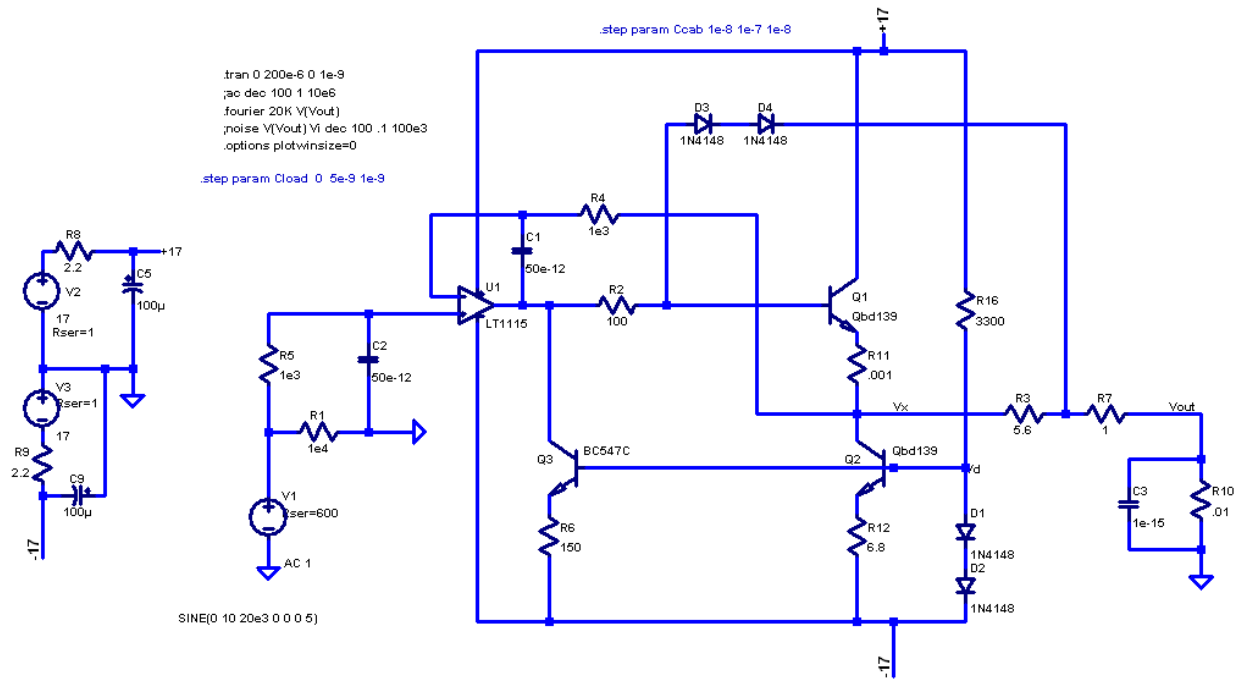
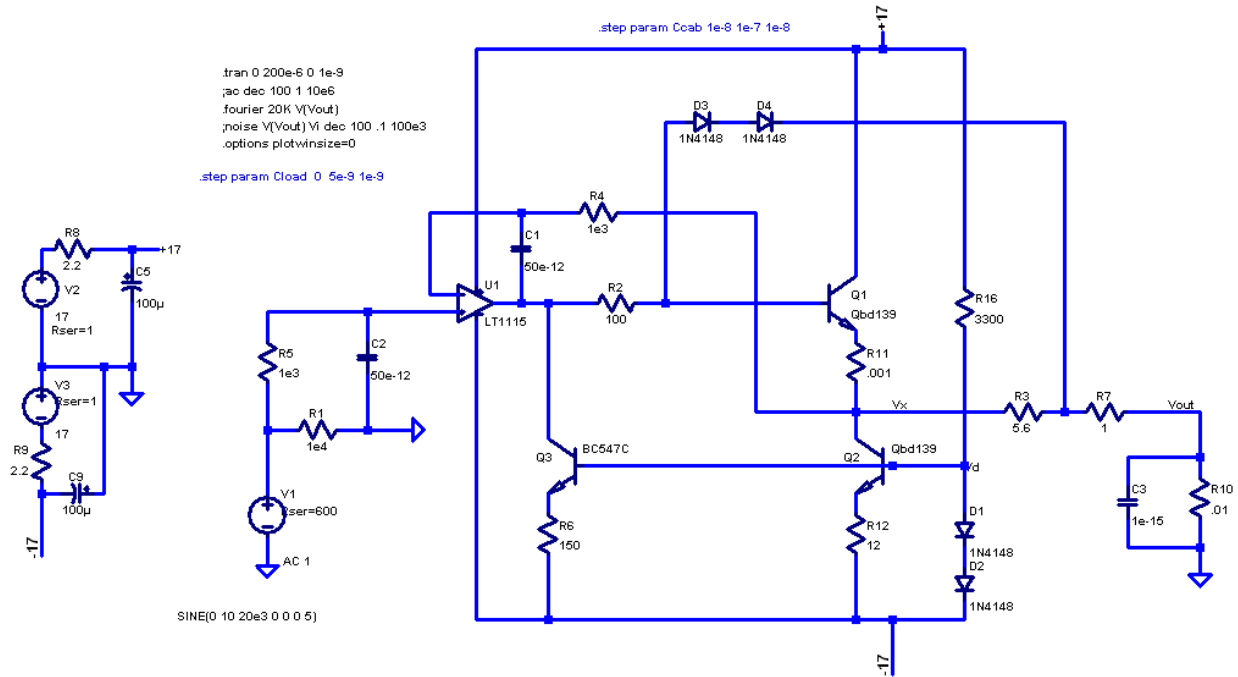

Figure 1 – Simple, Universal Class A Buffer (High Power Version Shown)
Figure 2 - Low Power Universal Class A Buffer (shown with 1nF parasitic load capacitance)
Fig 1 shows a very simple class A buffer that addresses all of the shortcomings of IC op-amps for applications where greater drive current along with fidelity are required. This design is simpler than competing diamond buffer designs, and still achieves outstanding performance.
IC op-amps do not drive capacitive loads very well directly from their outputs, and well engineered designs always incorporate a 50 Ohm resistor between the op-amp output and the load in order to isolate the op-amp from any possible capacitive load. In this buffer design, R3 (3.3 Ohms) and R7 (10 Ohms) serves to isolate the buffer from capacitive loads on the output, and this buffer will happily drive any capacitive load without running into stability problems. Of course, if you really are after 0 Ohms output impedance, you will need to limit the input signal bandwidth by increasing either R5, C2 or both, but this is not recommended practice. For normal usage like driving hi-fi cables or headphones, you can safely run this pre-amp with only 6.6 Ohms series output resistance (this is R3+R7 in the Fig 1 and Fig 2 schematics), where the buffer will tolerate up to 10nF and still remain perfectly stable.
2. You can use uncompensated op-amps like the SA5534A, but you will then have to select a suitable compensation cap (this fits directly across pins 8 and 5 on the SA5534 so don’t confuse this with C1 in the circuit diagram of Fig 1 which has a different purpose). This cap should be selected based on data sheet guidelines for unity gain operation.
If you are unlikely to ever encounter anything below 600 Ohms, it is quite permissible to reduce the Class A standing current, and here I tried a figure of 57mA by setting R12 to 12 Ohms, and R3 to 5.6 Ohms, rather than the 6.8 Ohms and 3.3 Ohms respectively and this is shown in Fig 2. The simulated performance is as good, with 1V RMS 20KHz distortion at 3ppm, and 10V RMS into 600 Ohms coming in at 15ppm. Running at lower power of course means you can reduce the size of the heatsink considerably or even dispense with it completely if you place enough copper land down on your PCB.